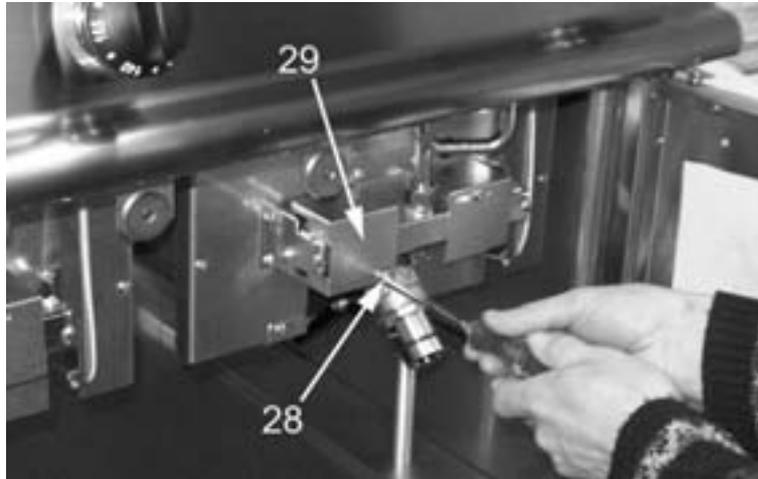

Fig. 13
1. Remove the screw shown as item 28 in Fig. 13 and then remove the air sleeve;